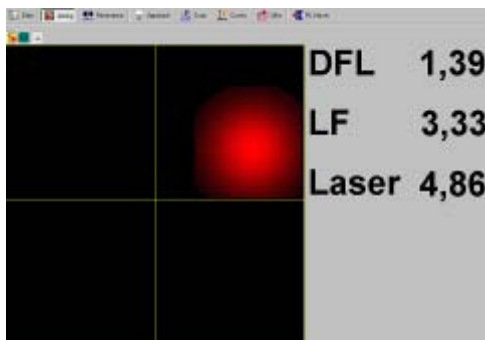

Fig. 2-54
- Normally, once the laser beam is aligned with the cantilever, the nonzero photodiode signals appear in the window digital indicator (Fig. 2-54);